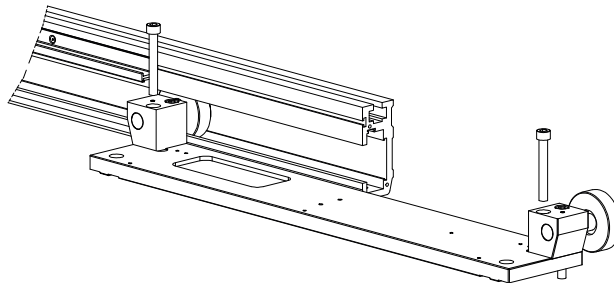

Fig. 5-14 *Distance plates*
- Roll in the distance plates into each ceiling rail Y, see Fig. 5-14 *Distance plates*.